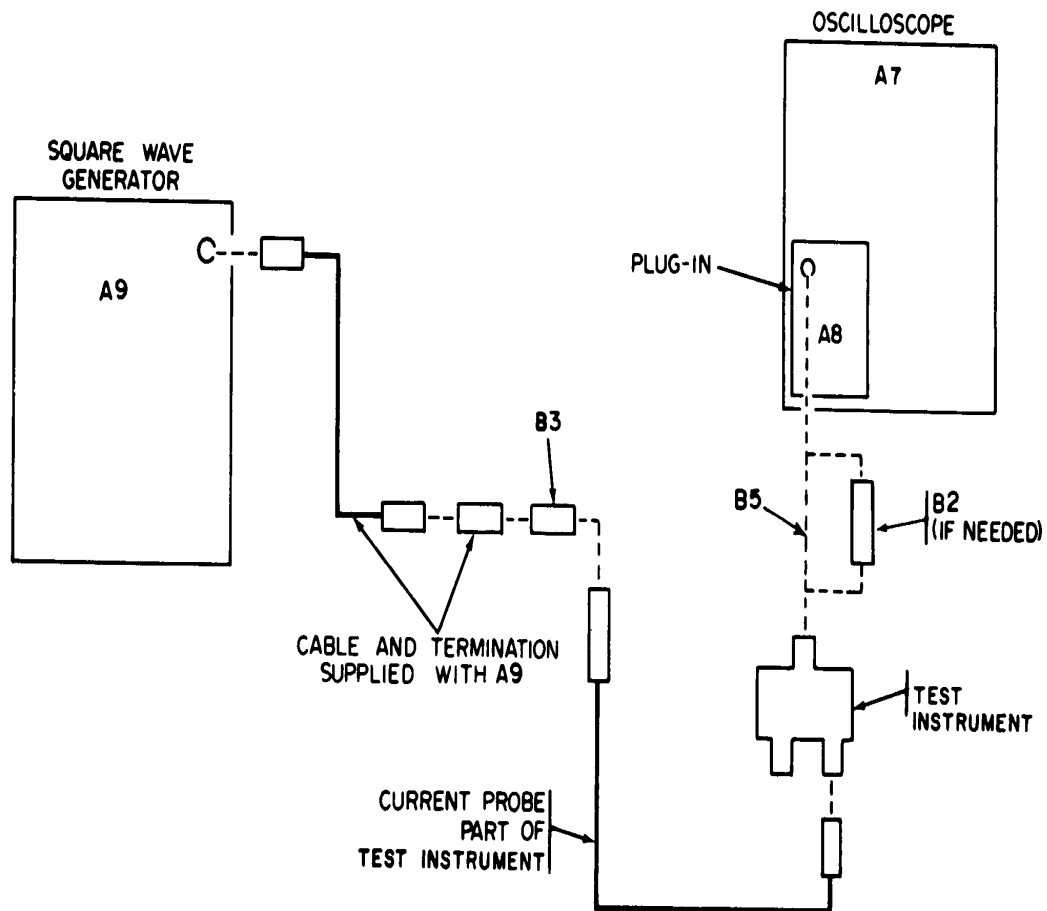

Figure 5. Rise time and high frequency - equipment setup.
- (1) Replace left side cover on TI.
- (2) Connect equipment as shown in figure 5.
- (3) Turn TI **CURRENT/DIV.** switch to **5 mAMP.**
- (4) Turn oscilloscope (A7) **VOLTS/CM** switch to **.05.**
- (5) Adjust square-wave generator (A9) until oscilloscope displays waveform 2 centimeters high at approximately 500 kHz.